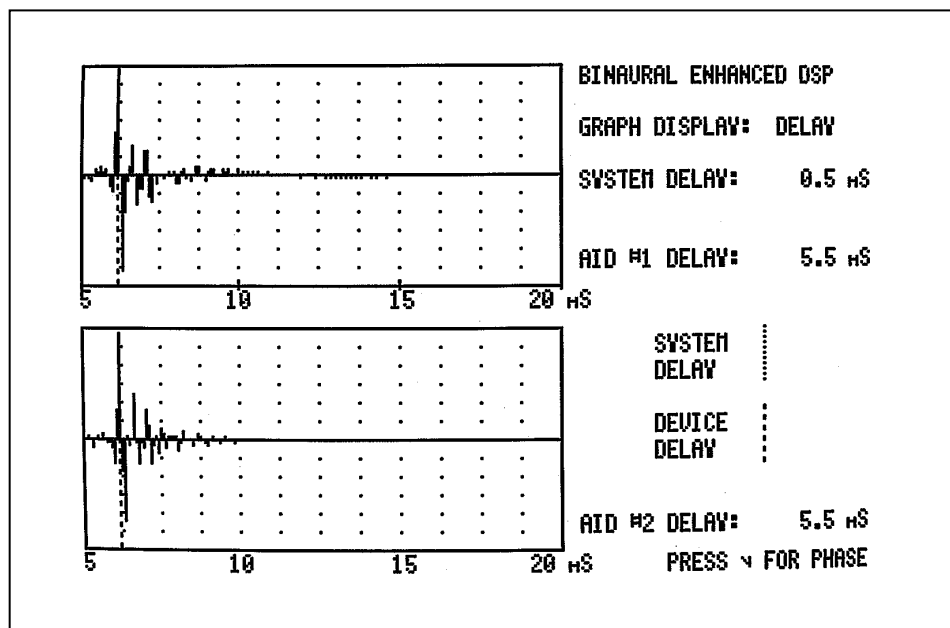

Figure 7.6.4A—Binaural Enhanced DSP delay graph
9. Press [START] to perform the second measurement. The results will be displayed in the lower graph. See Figure 7.6.4A